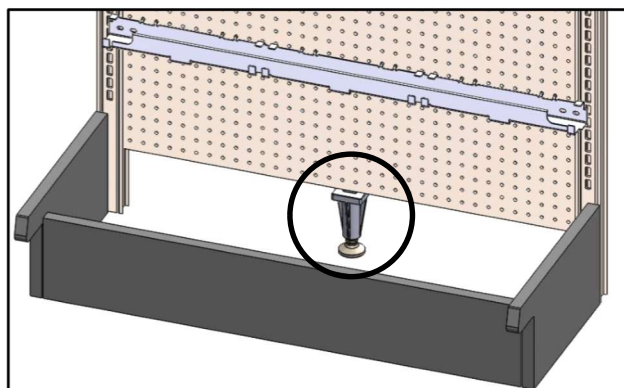

Figure 11
*When Crossbars are hung on the Peg Board, a Gondola Support is required. Remove the Gondola Base Deck and install the Gondola Support (See Figure 11). It must be centered, vertically straight, finger tight, but not lifting the peg board.*